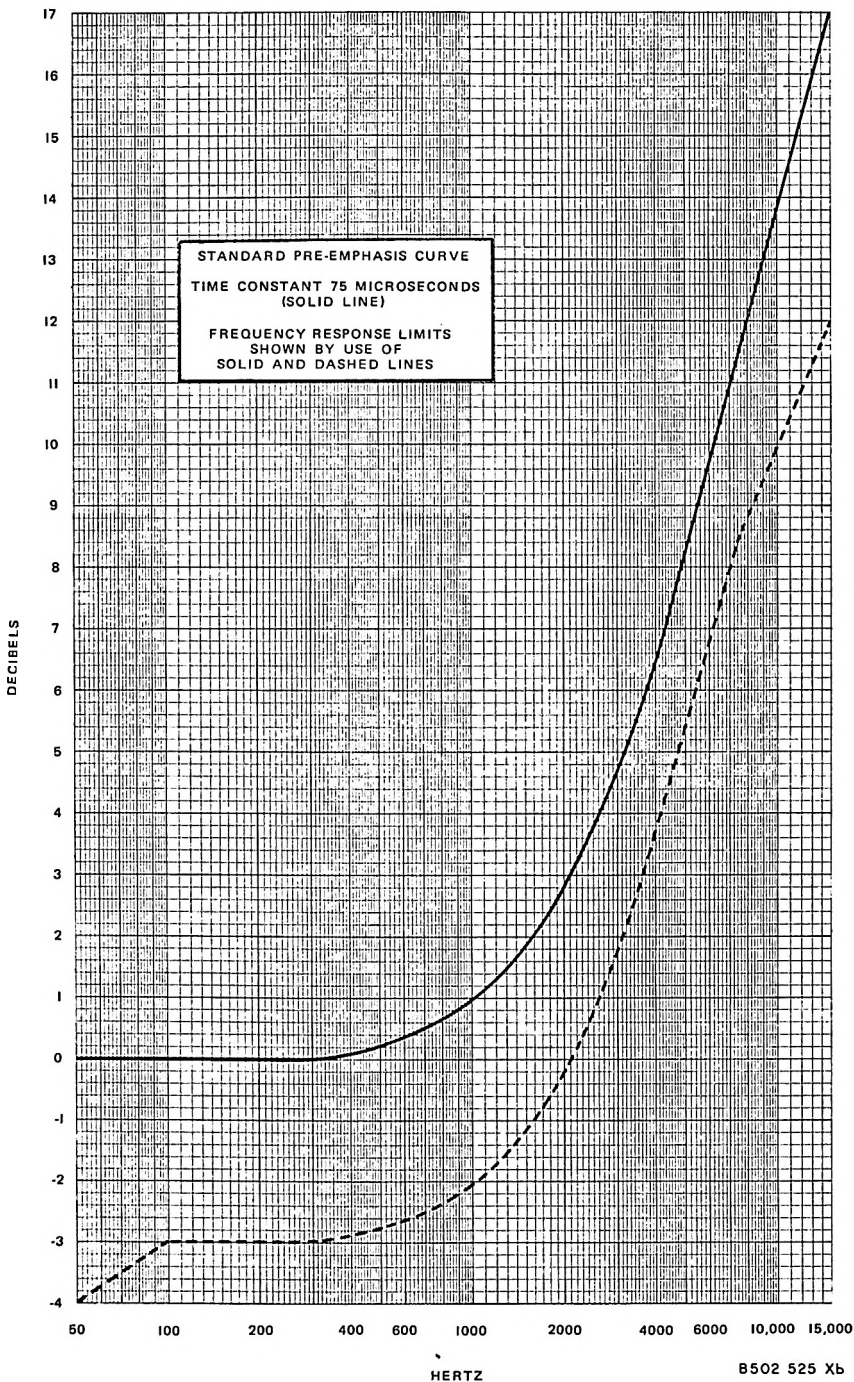

Figure 5-8. Standard Preemphasis Curve.
- f. While maintaining the 7.5-kHz deviation, vary the audio generator frequency to 100, 400, 1000, and 5000 Hz. The audio generator attenuator settings for each frequency should follow the 75-microsecond preemphasis curve as specified by the FCC. See figure 5-8.